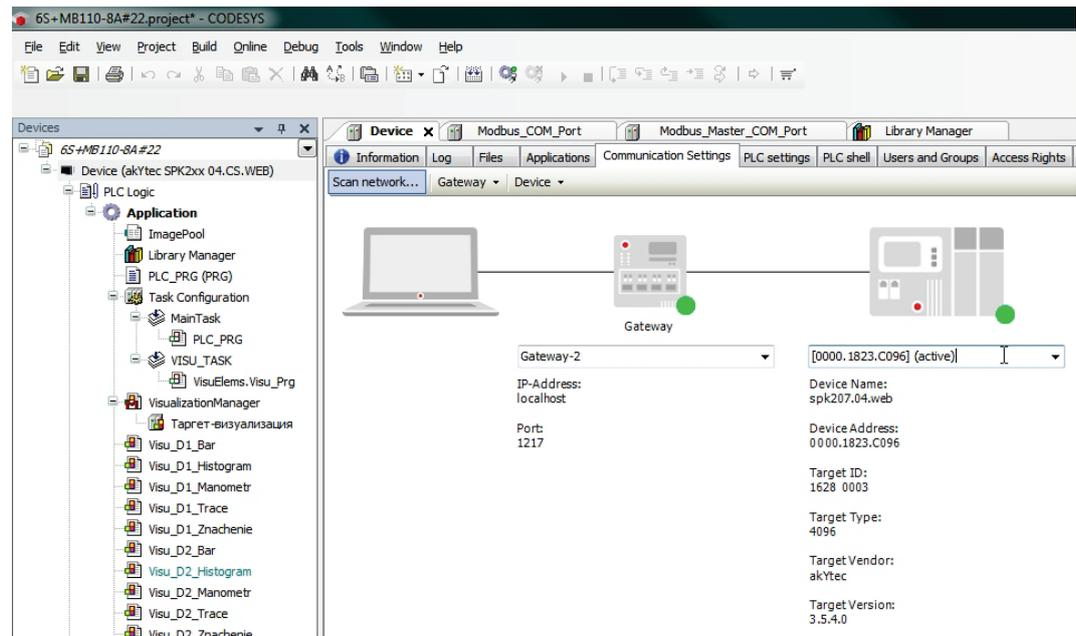

Fig. C.3 Correct connection to PLC
- Select the device from this list and click **Set active path** (Fig. C.3).